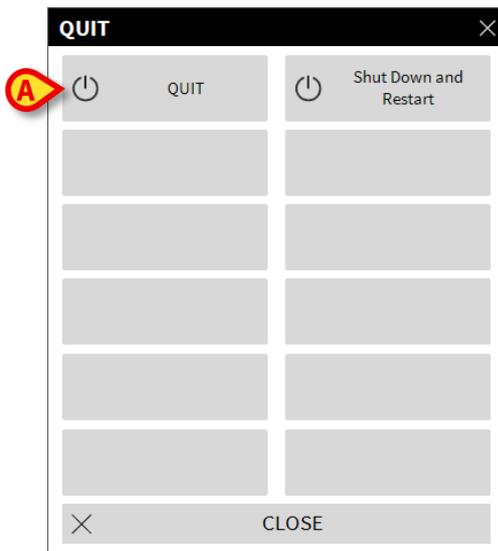

Fig 41
Another menu is displayed (Fig 41).
- Click the **Quit** button again (Fig 41 A)